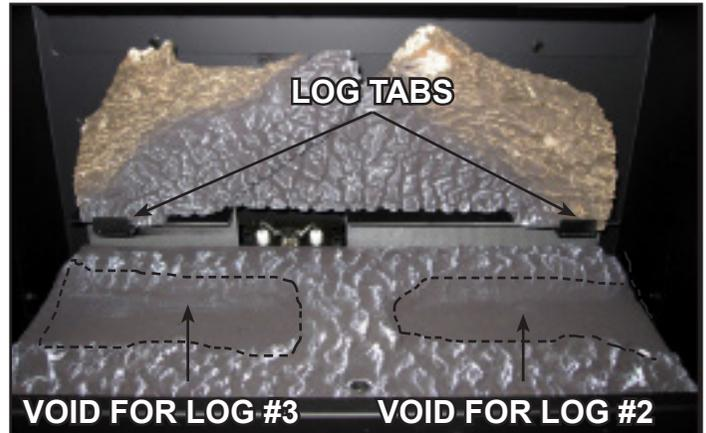

Figure 2 - Placement of Log #1
**CAUTION: Logs are fragile, handle with care. Log #1 (2342-701):** Position rear log on log shelf above pilot assembly. Center log and pull base forward until it contacts the log tabs on the burner. See Figure 2.